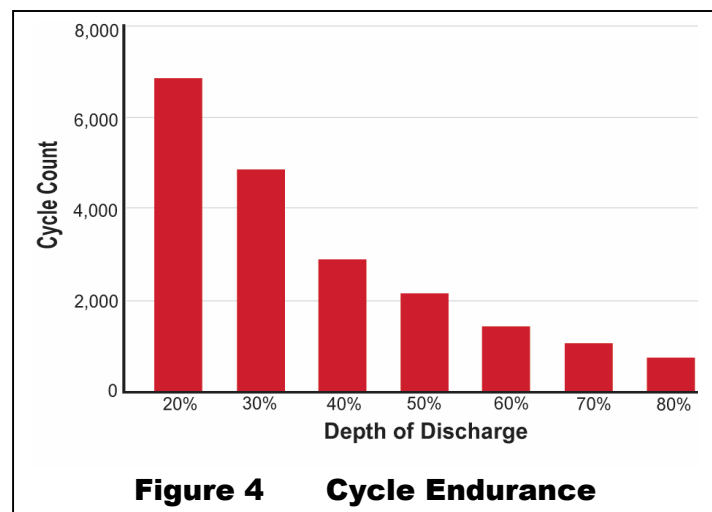

Figure 4 Cycle Endurance
7. Install parallel connections. Parallel connections are made from the positive terminal of one battery or string to the positive of the next; negative connections are made similarly. (See Figure 4 on page 7.) External cables or bus bars must be provided. Interconnecting bars cannot make parallel connections.